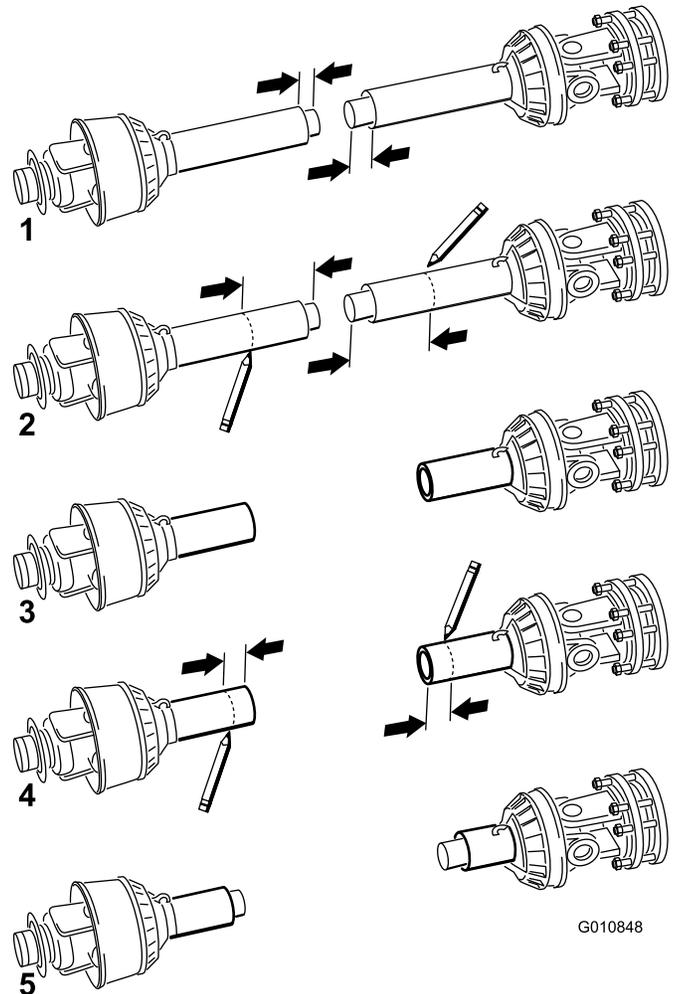

Figure 17
11. Separate the two halves of the PTO shaft (Figure 17, illustration 1).
12. Measure the distance from the end of each tube to its safety shield (Figure 17, illustration 1). Record the distances.
13. Using the dimensions determined in step 8, locate, mark and cut off the shield and tube from each PTO half (Figure 17, illustrations 2 & 3).
14. Using the dimensions determined in step 11, locate, mark and cut off just the safety shields to expose the tubes Figure 17, illustrations 4 & 5.